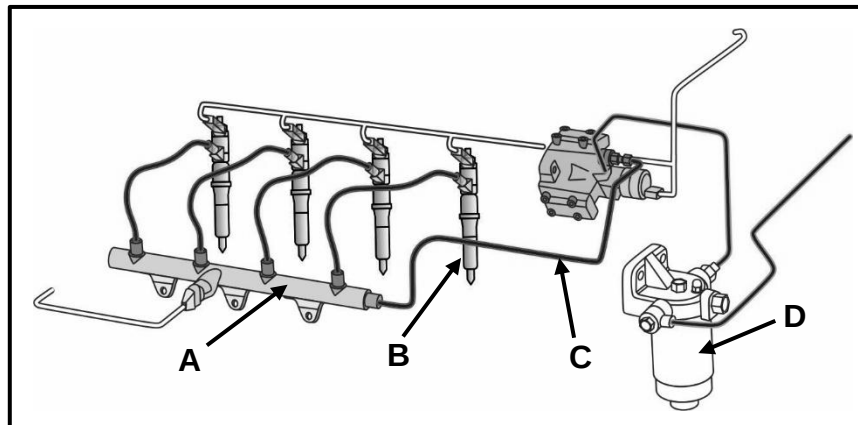

FIGURE 10.6
10.6 FIGURE 10.6 below shows a common rail direct injection (CRDI) system. Label **A–D**.